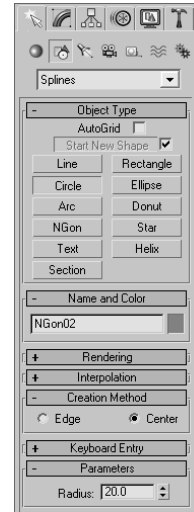

Figure 2.12
2. In the Command panel, click the Create tab and then click the Shapes button () to display the creation options for various shapes. The Splines option should be shown in the Object Type pull-down menu, as shown in Figure 2.12.